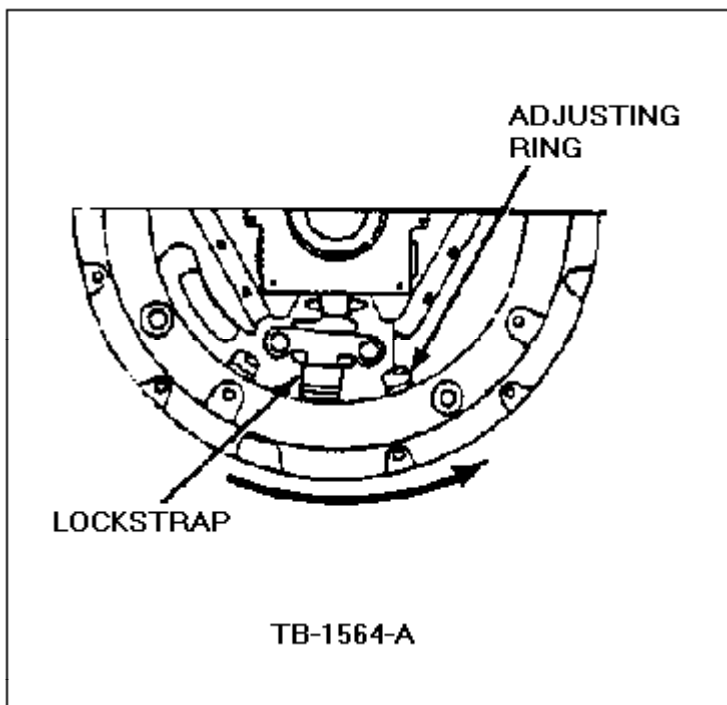

Figure 5 - Article 90-5-17
1. Adjust the clutch so that there is NO free travel, Figures 5 & 6.